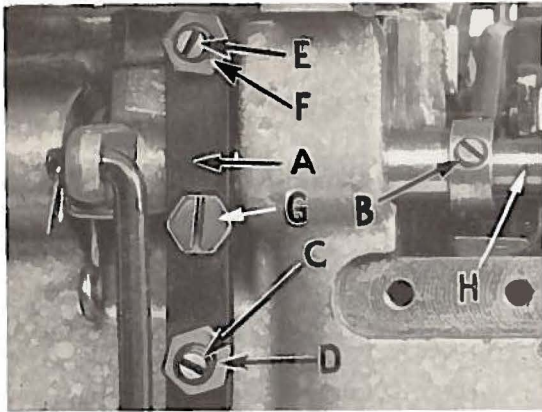

Fig. 15
It is also important that the bottom of the presser foot be flat on the throat plate. If necessary, presser foot can be realigned with throat plate slots by shifting the foot lifter lever shaft (H, Fig. 15). To move the shaft, loosen collar screws (B, Fig. 15) and clamp screw (G) and then shift the foot lifter lever shaft to the left or right as required. Retighten collar screws and clamp screw.
The foot lifter lever arm (A, Fig. 15) and the collar (B) secure the shaft. Be sure the presser arm does not bind and rise when presser foot release bushing is unlocked.